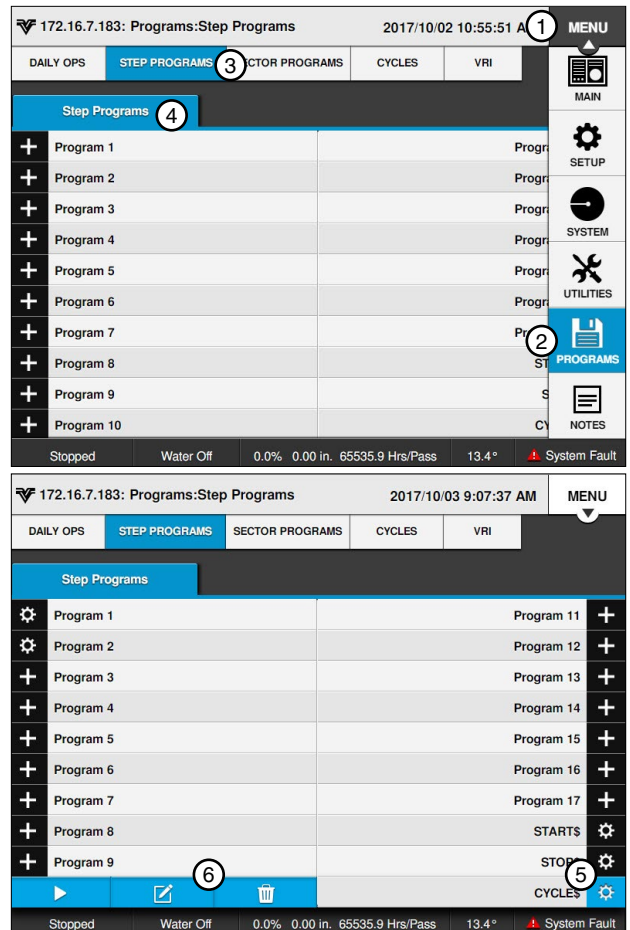

Figure 135-2 1. Menu 2. Programs 3. Step Programs 4. Step Programs 5. Settings 6. Edit
1. Push **Menu**, **Programs**, and **Step Programs** to view the Step Programs screen. Refer to Figure 135-2.